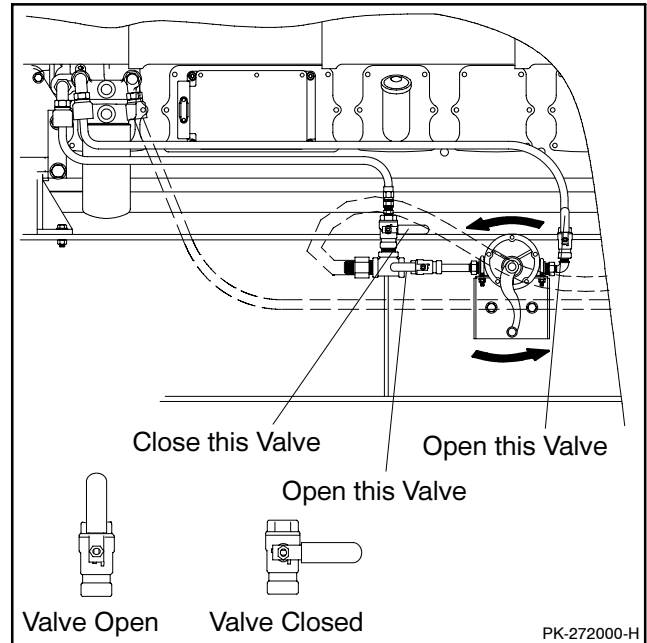

Figure 3-1 Hand Prime Pump with Valve Positions for Fuel Priming (Generator Set Without a Fuel/Water Separator Shown)
1. Place the fuel valves in the fuel system prime position. Close the fuel valve located between the pipe tee and the engine. Open the fuel valves on each side of the fuel prime pump. See Figure 3-1.